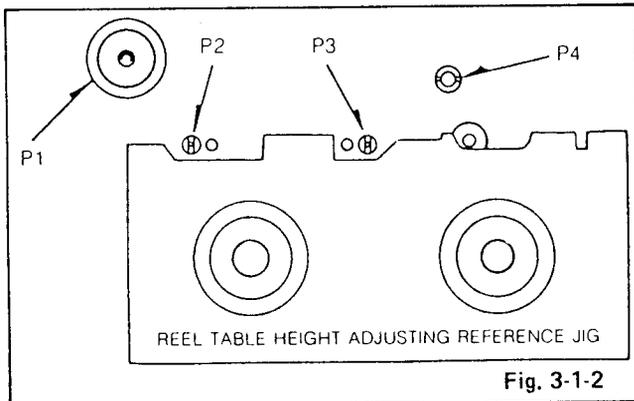

Fig. 3-1-2
- P1, P2, P3 & P4 of Fig. 3-1-2.
- Place post height adjusting JIG on the post height adjusting reference JIG, and adjust with the post adjusting driver in order to make the lower guide edge of P2 & P3 in line (Fig. 3-1-2) with the reference surface of the post height adjusting JIG.